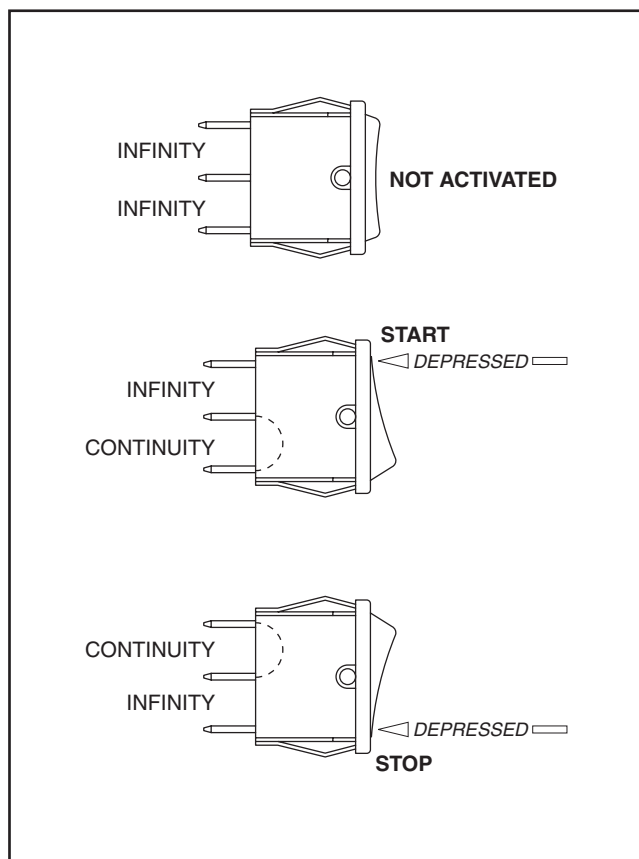

Figure 7-18. – Test 24, Step 6
6. Leave the test lead connected to the center terminal of SW1 from Step 5. Connect the other test lead to an outer terminal. Depress the switch away from the terminal being tested (see Figure 7-18). Continuity should be measured. Repeat the procedure with the test lead connected to the other outer terminal. Continuity should be measured.